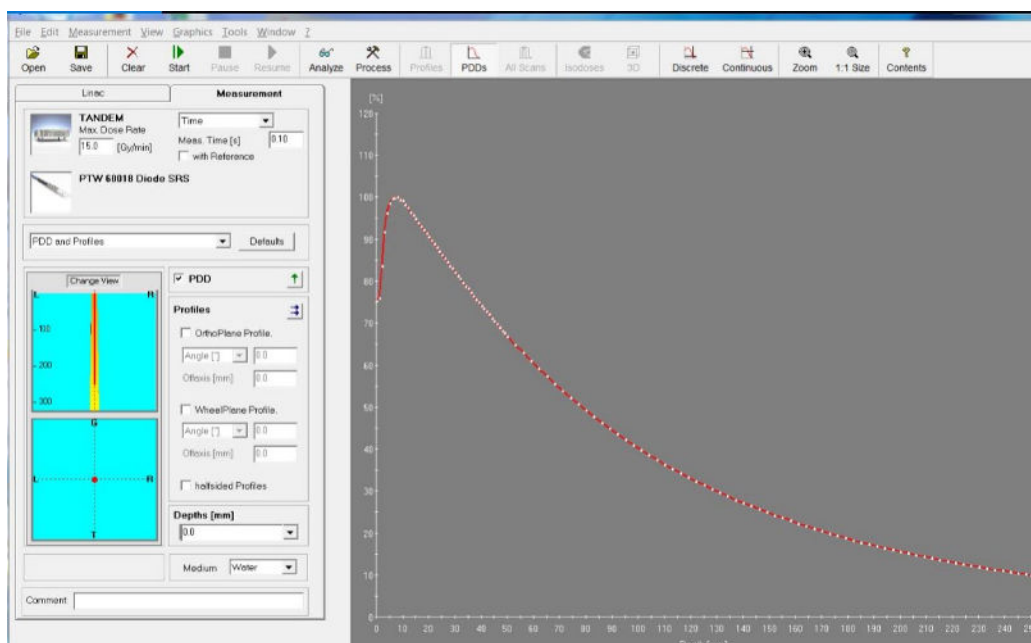

Figure 1-18. PDD Plot
- g. Go to TDS Linac Calibration, select 25 mm Collimator and input Dose of 5000 MU. After turning on the beam, immediately go to PTW Mephysto and press **Start** to begin scanning. Typical Plot for PDD is shown below (see Figure 1-18).